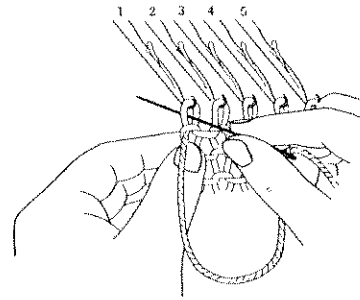

Fig. 91
- (A) Thread the needle with yarn three times the length of the garment to be bound off. Insert the needle into the first stitch as shown in Fig. 91